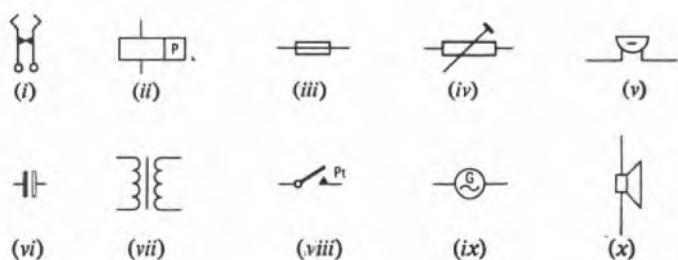

Fig. 1
**Q10 (a)** State what the symbols shown in Fig. 1 represent.